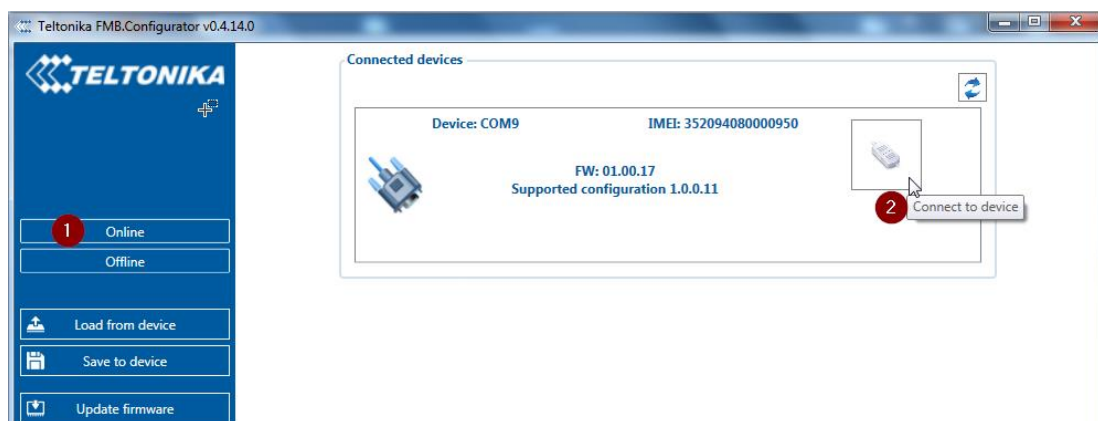

Figure 1. FMB configurator connected devices window
2. Launch **FMB Configurator** and connect to device as shown in **Figure 1** below.